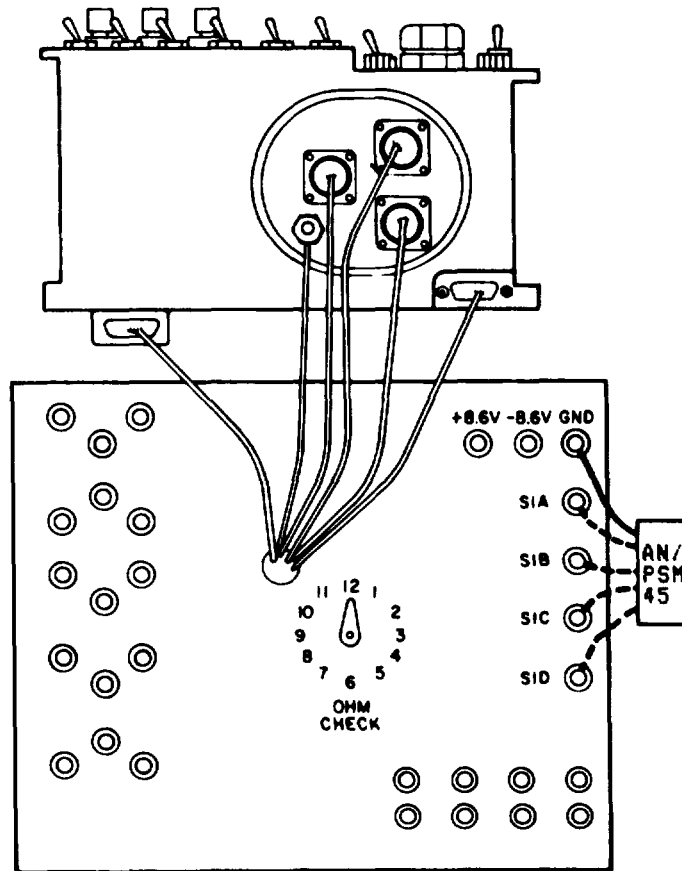

Figure 6-17. INTERFACE CONTINUITY TEST SETUP
**(5) CONTINUITY CHECKS TEST SETUP. (See figure 6-17. )**